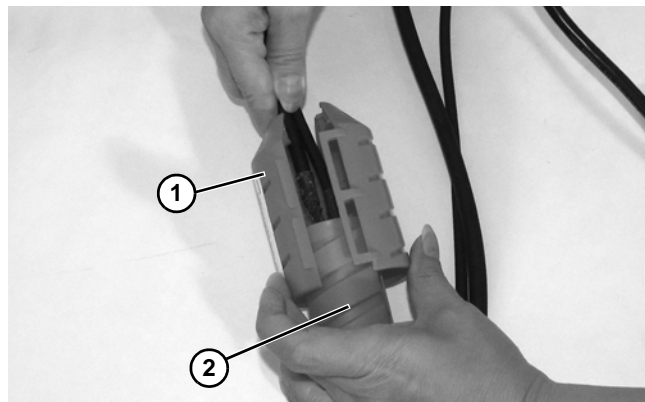

Figure 30
2. Remove outer cord cover (**Figure 30, item 1**) from inner cord cover (**Figure 30, item 2**).